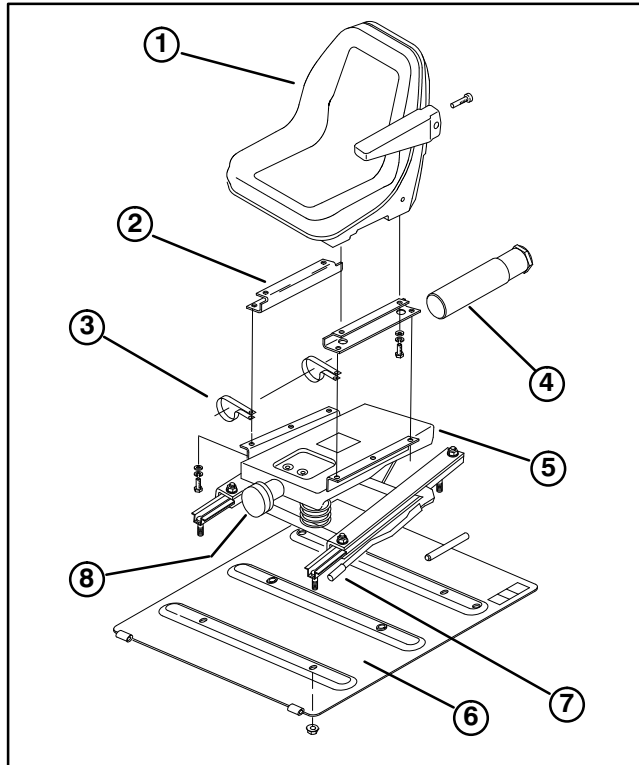

Figure 5
2. Mount each seat adapter bracket to seat with (2) 5/16-18 x 3/4" lg. capscrews, flatwashers and lockwashers, positioning as shown in figure 5.
3. Loosely mount right seat adapter bracket and (2) R-clamps to right side of suspension with (2) 5/16-18 x 3/4" lg. capscrews, flatwashers and lockwashers. Position R-clamps as shown in figure 5.
4. Install manual tube into R-clamps, insert manual into tube and thread cap into tube (Fig. 5) Tighten capscrews.
5. Mount left seat adapter bracket to left side of suspension with (2) capscrews, flatwashers and lockwashers.
7. Secure mounting studs to seat base with (4) locknuts.